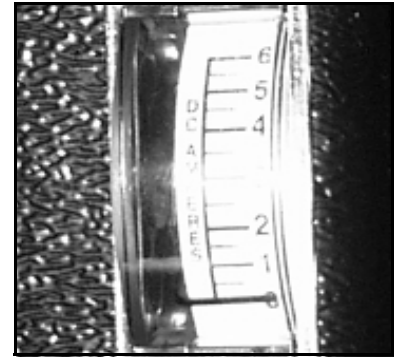

Figure 7. Ammeter
You can also use the ammeter to check your batteries' charge. The ammeter is located on the utility tray under the rear shroud. See figure 7. The amperage reading should be at or near zero (0) when the batteries are fully charged. The battery charger must be plugged into a standard electrical outlet to obtain an ammeter reading.